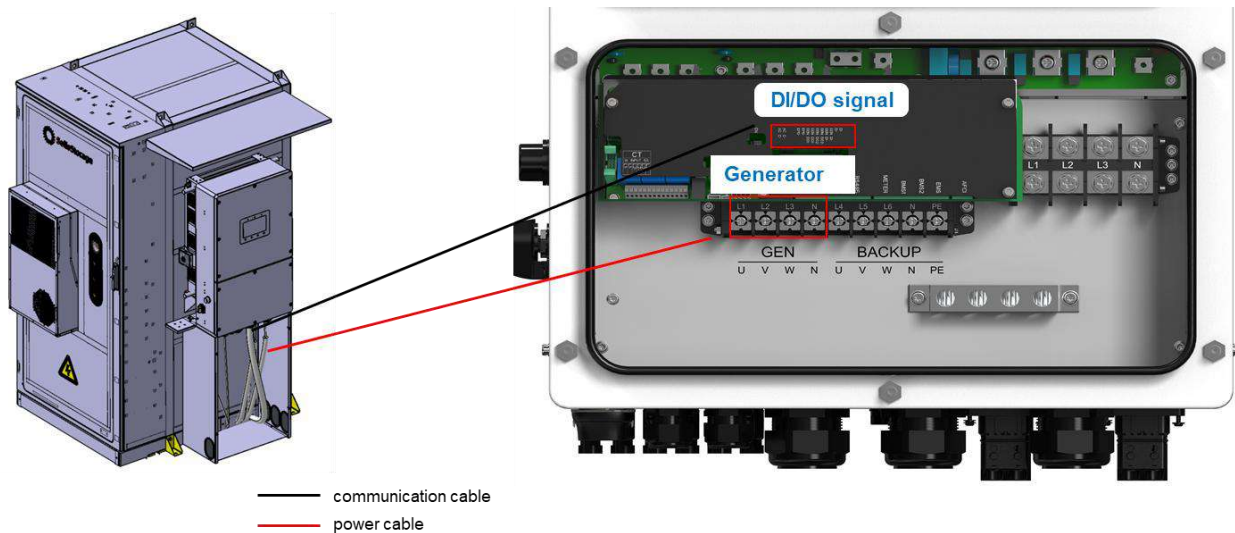

Figure 5-19 Generator connection position
1. The diesel generator has been connected to the PrimePower hybrid inverter. Please refer to Figure 5-19 for the connection procedure.